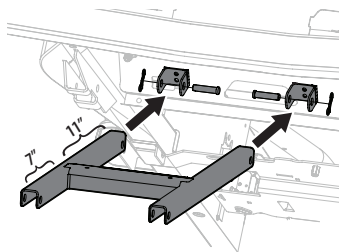

Figure 3
- Install "H" bracket assembly (689-02119) to larger plate (689-02121) mounted to underside of foot pan by facing longer arms of "H" bracket toward plate, aligning holes in arms with holes in U brackets on larger plate. See Figure 3.
- Working from inside out, secure plate and "H" bracket together with two clevis pins (711-05217) and two bow tie pins (714-05005) from hardware pack 689-02139. See Figure 3.